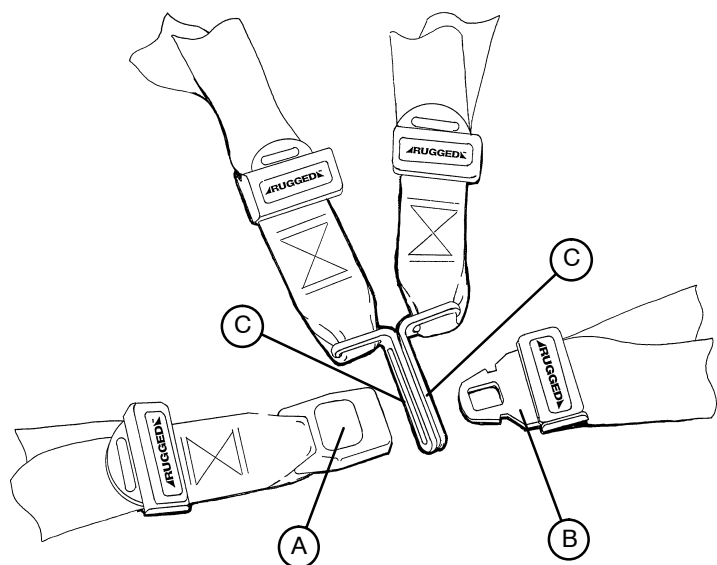

Figure 17 – Buckling the Safety Restraints
- To open the restraint, press the red button (A) on the front of the buckle "receiver". This releases the buckle "tang" (B) which can then be pulled out of the receiver (Figure 17).
- To close the restraint, push the tang into the receiver until a "click" is heard. When fastening the chest restraint ensure the tang passes through both links (C) on the shoulder strap (Figure 17).